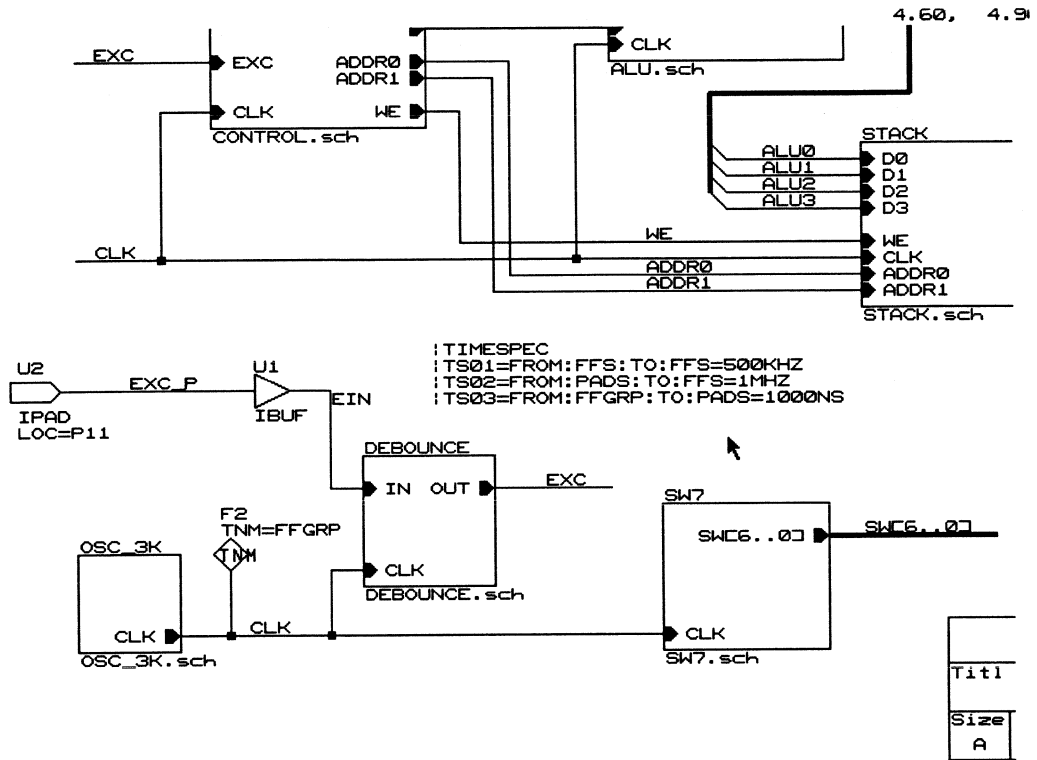

Figure 15-1 Default Timing Constraints on CALC Schematic
6. Use the Place Wire and Place Junction commands to attach the TNM symbol to the CLK net, as shown in Figure 15-1.
1. Use the Place Text command to place the following text on the schematic, as shown in Figure 15-1.
Figure 15-1 shows a portion of the CALC schematic with the TNM attribute and TIMESPEC text strings.